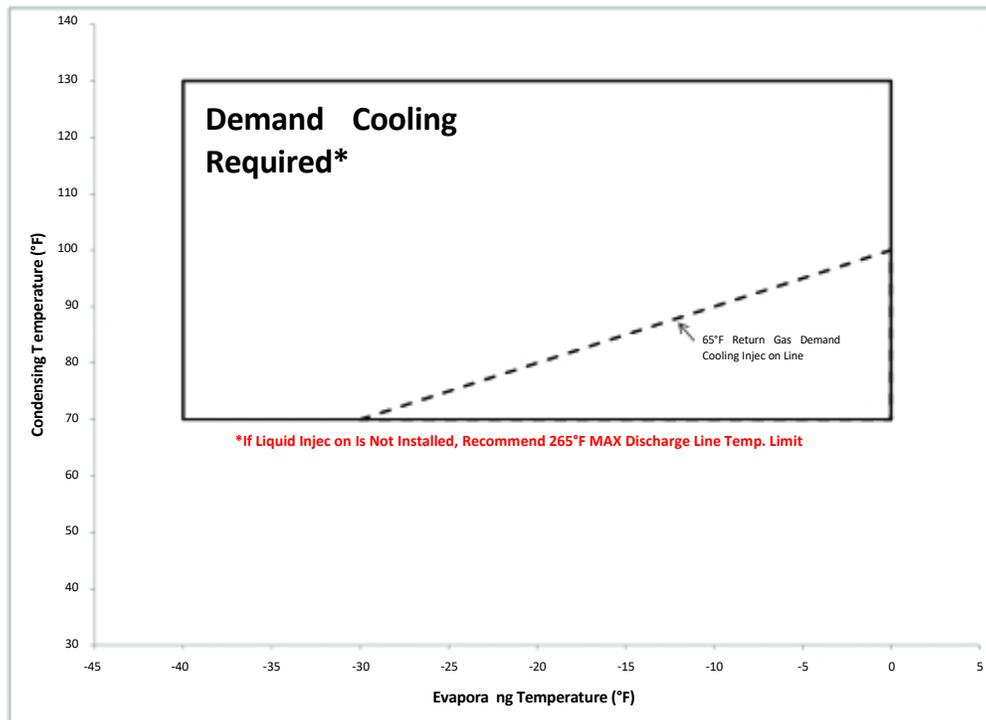

Figure 6 - Low Temperature Operating Envelope for R-22 at 65°F Return Gas (with Head Fan)
- B. The **output signal to the IV** is controlled by an electronic switch connected to the IV solenoid so that, when required, refrigerant vapor can be metered to the compressor to prevent compressor overheating. One side of the electronic switch is connected internally to 'L1' and the other side to output terminal 'S' (see **Figure 6**).